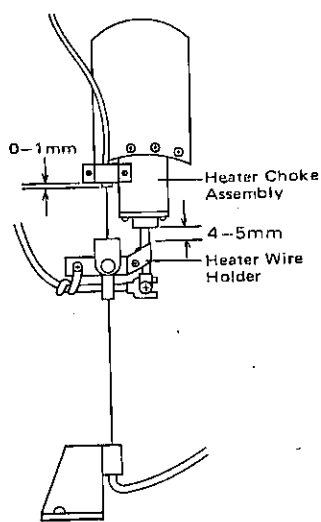

Figure 13-1 Heater Position "I"
2. With the knob set at "I" position, the distance between the heater choke assembly and the heater wire holder should be 4 ~ 5mm. (Figure 13-1.)
4. The heater control cable (A) should be secured at the position where the distance between the cable holder and cable guide is 0 ~ 1 mm. (Figure 13-1.)